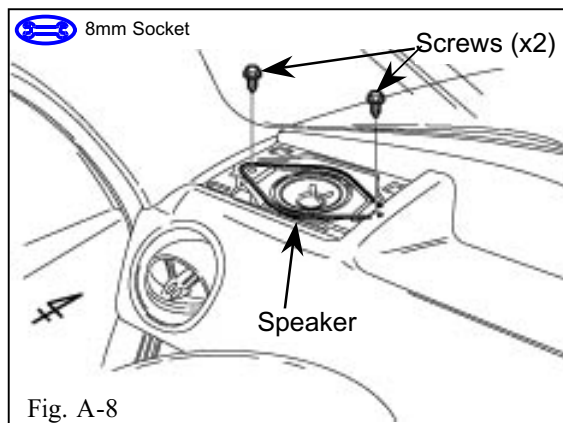
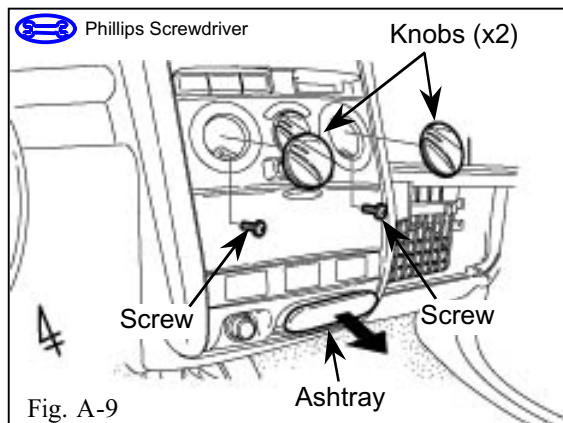

Fig. A-8
Fig. A-9
8. Remove the driver side speaker. (Fig. A-8)
- i. Remove the two (2) screws securing the speaker, then disconnect the speaker connector from the speaker.
9. Remove the two heater control knobs shown. (Fig. A-9)